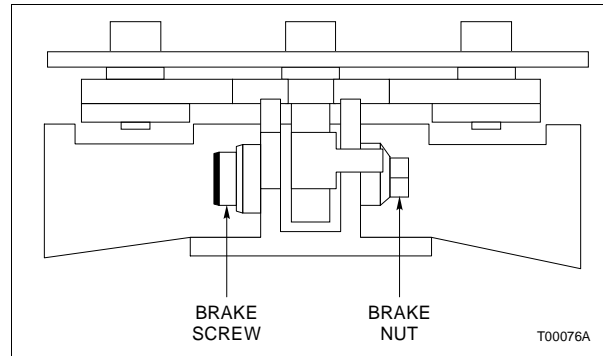

Figure PR68-2. Swivel/Tilt Brake Adjustment
4. Reach into the opening left vacant by the panel control and while using the M4 Allen wrench to hold the brake screw in place, use the 10-mm open-end wrench to tighten or loosen the brake nut as desired (Fig. PR68-2).